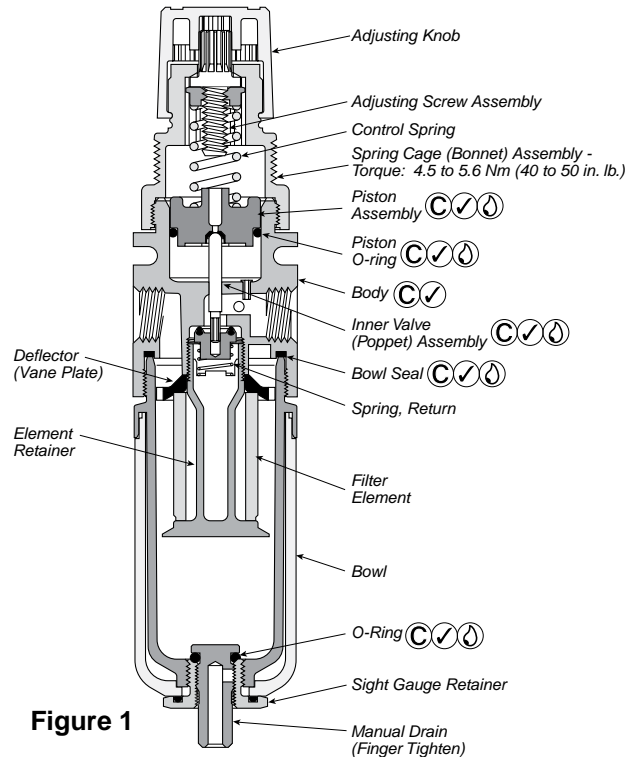

Figure 1
Servicing Filter Element - (Refer to Figure 1)
Servicing Regulator - (Refer to Figure 1)
- Install Piston Assembly into Body Assembly. Assemble Bonnet Assembly onto Body and tighten per Figure 1.